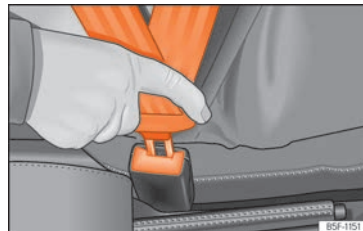

Fig. 10 Insert the latch plate of the seat belt into the buckle.
- Engage the latch plate in the buckle of the corresponding seat »» » Fig. 10.